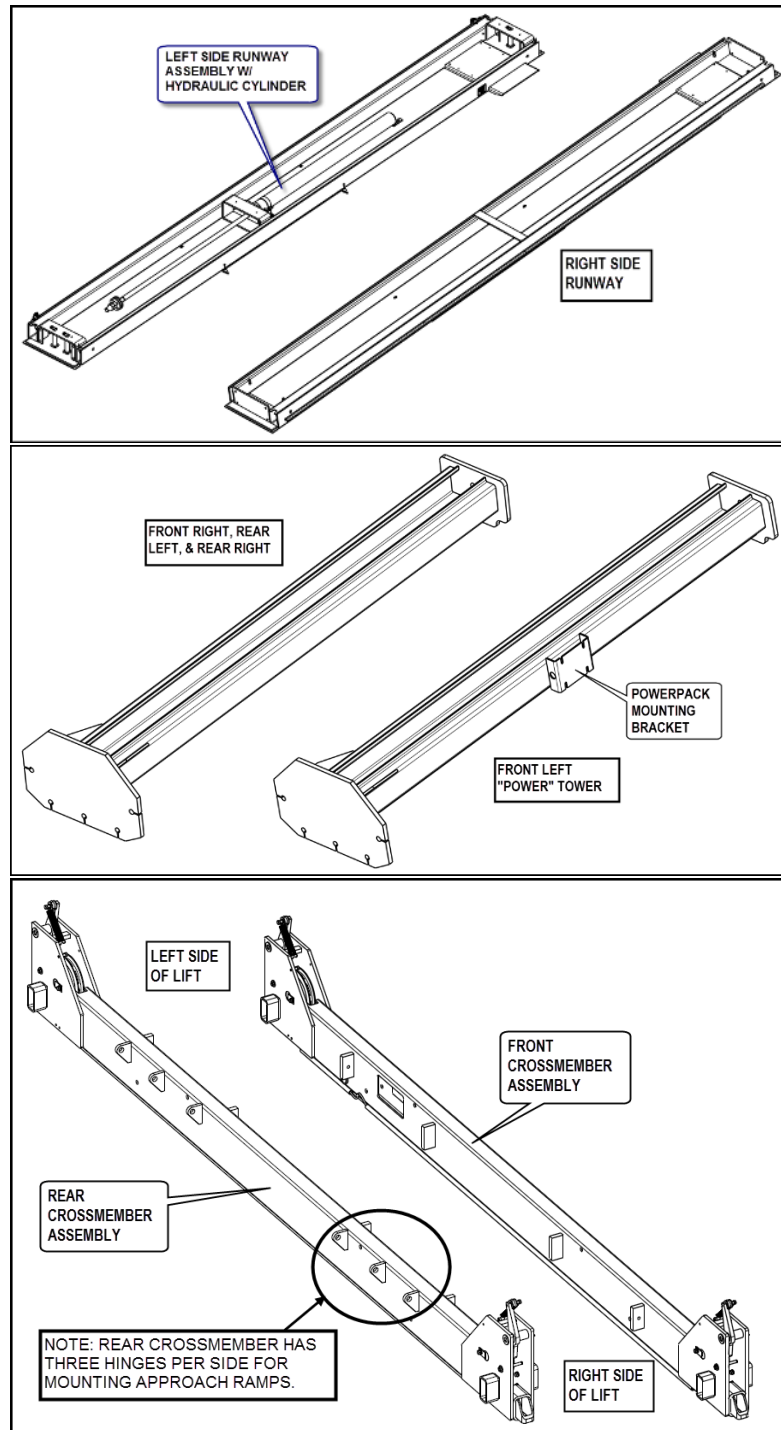

Figure 5. Component Identification
2. **Figure 5** to identify the front and rear crossmembers.
2. Determine which tower is the power post (see **Figure 5**) and position it in the front left corner. Position the remaining three towers at the other corners of the lift.